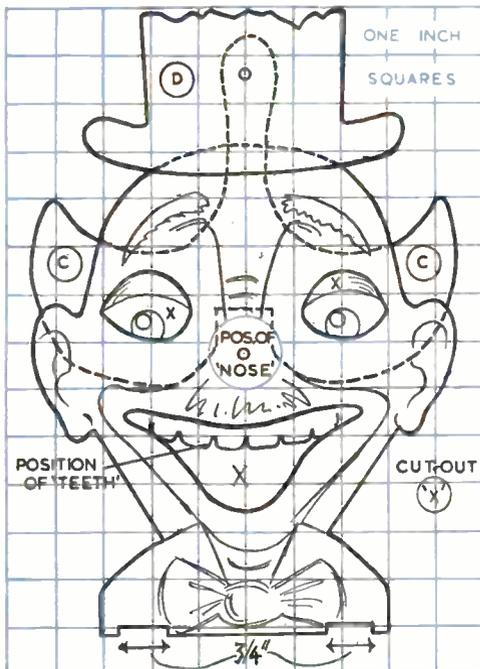

Fig. 1—The reduced scale pattern from which the face, hat (D) and moving eyes (C) units are copied full scale and transferred to wood for cutting out.
The pattern of the cut-out target head and moving eyes piece (C) and top-hat (D), is given in Fig. 1. Full-size patterns are obtained by copying the shapes over 1in. squares. Plywood is recommended for all cut-out parts. Cut pieces (C) and (D) from plywood of about 3/16in. thickness. The extending arm of piece (C) has a wood or cardboard washer glued to the front so that piece (D), pivoted on